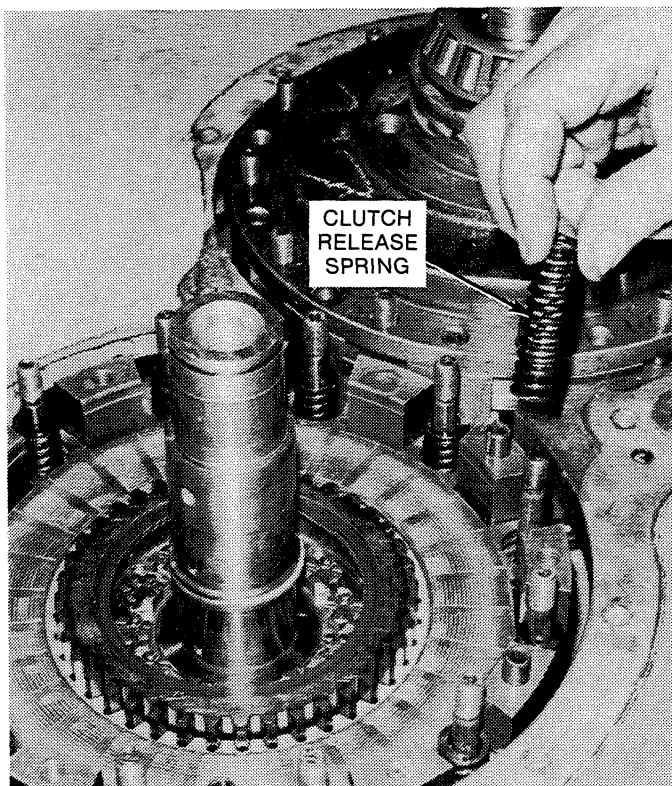

Figure 6-15. Removing or Installing Clutch Release Springs.
7. Remove the clutch release springs and release spring sleeves. See Figure 6-15.